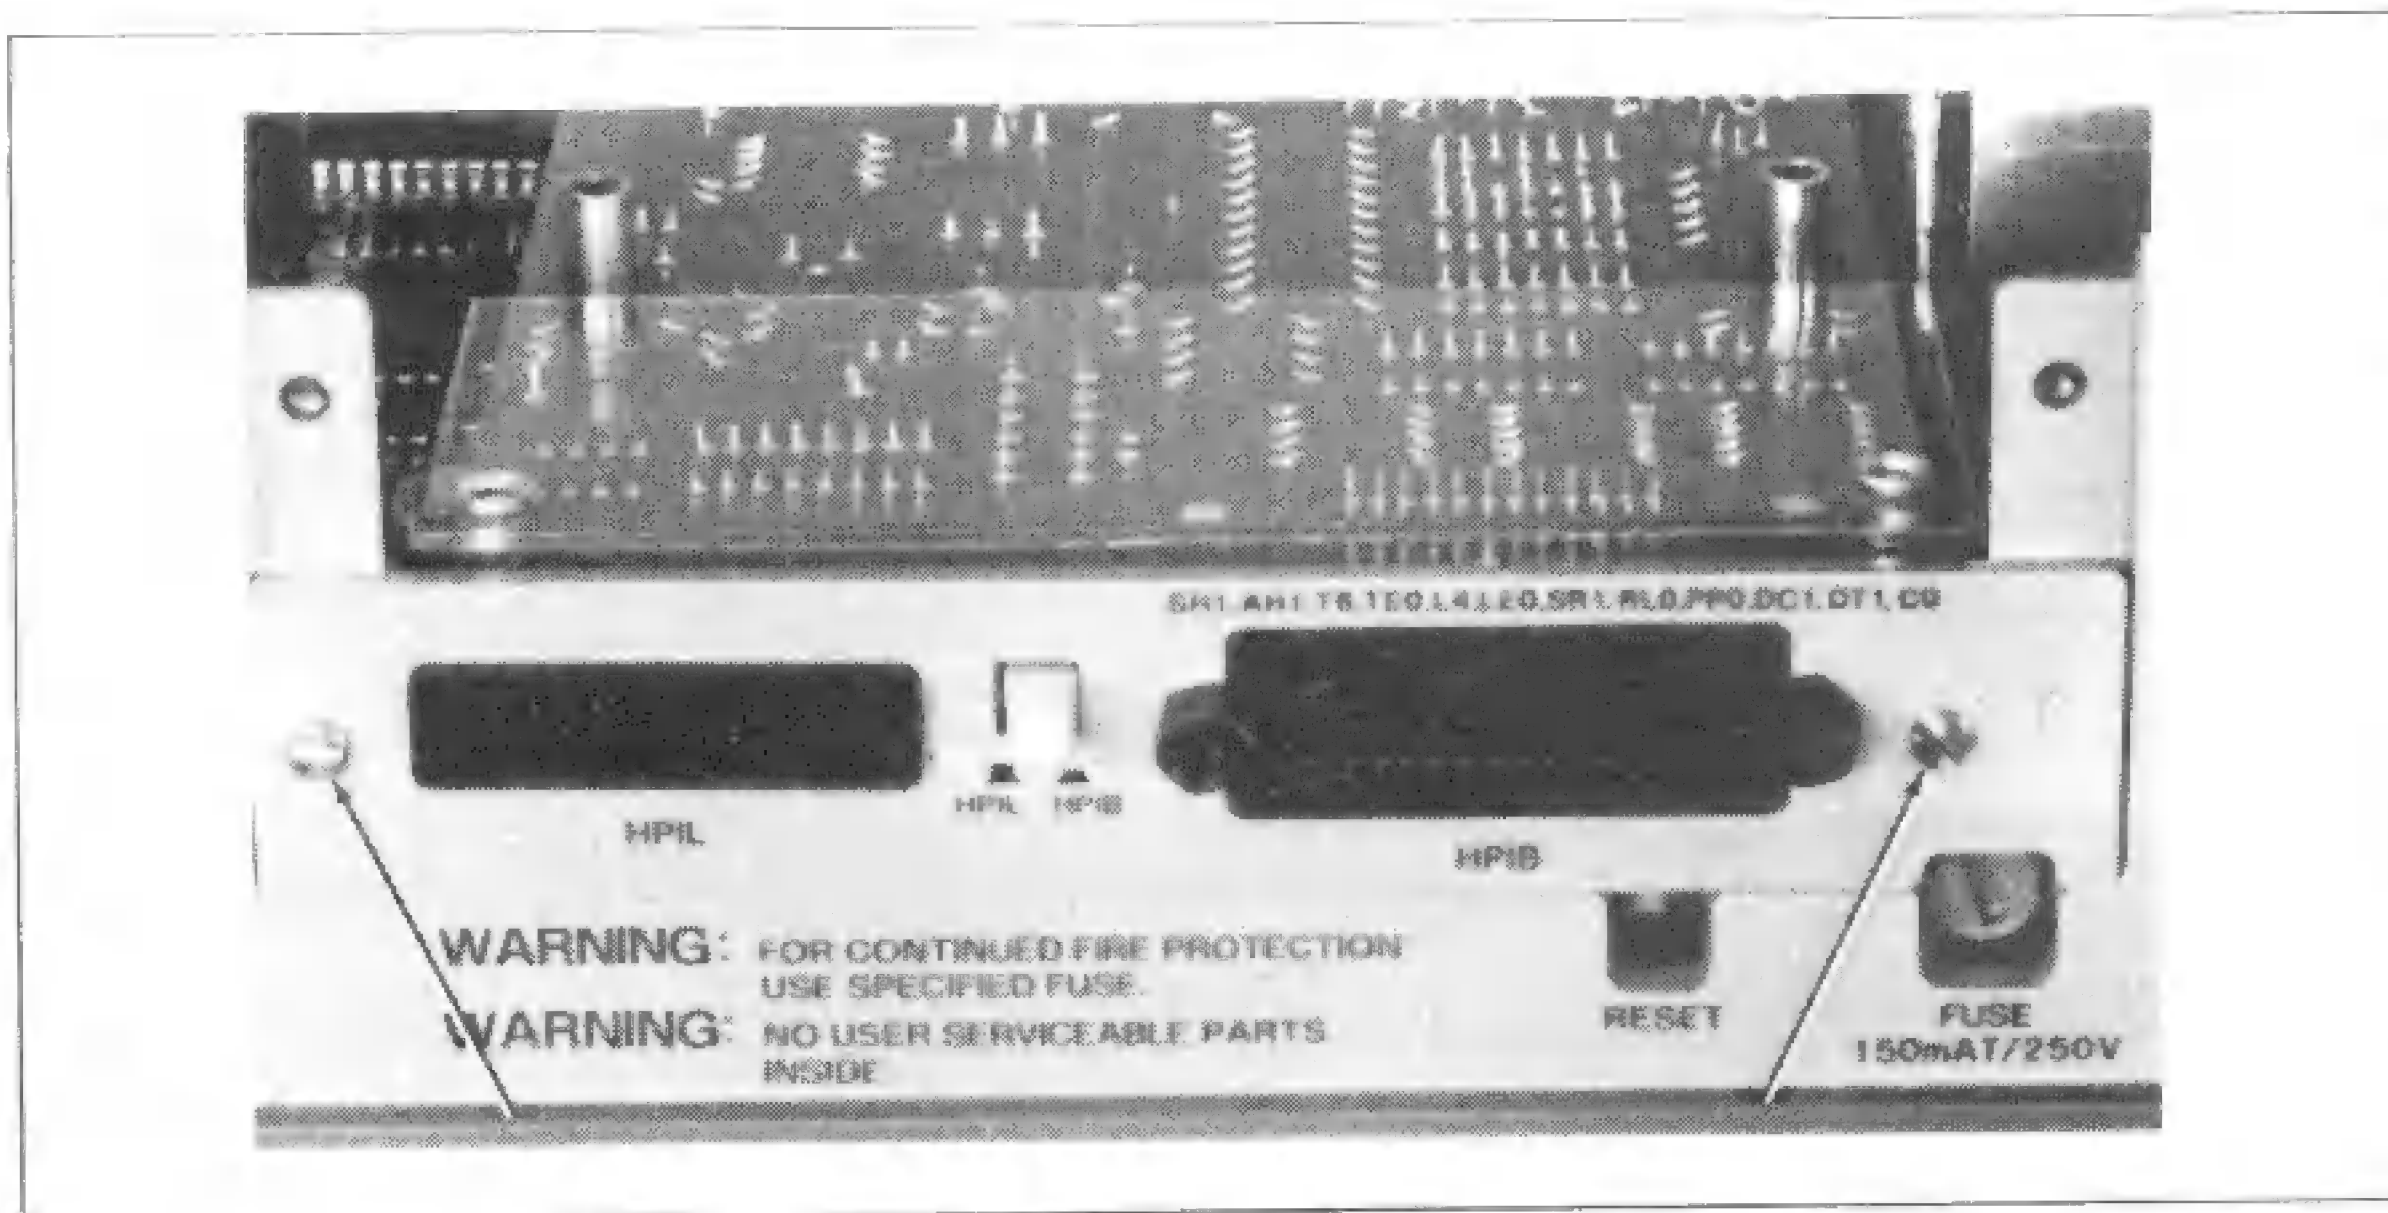

**Figure 1-8-9. Standoffs for Motherboard Ground**
1. Leave the bottom hex standoffs in place to secure the motherboard to the chassis. This ensures that the motherboard has a good ground, as shown in Figure 1-8-9.